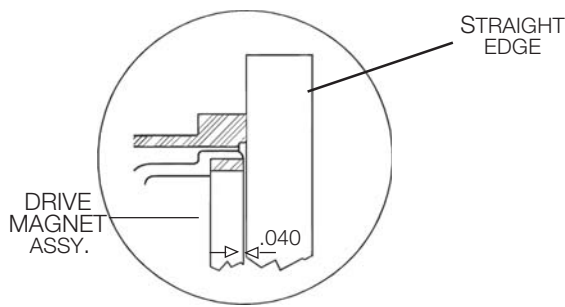
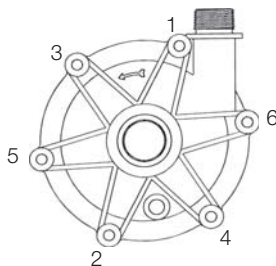

Figure 2
Figure 3
2. Remove screws and washers (items 9A, 9B & 9C) from impeller housing (item 1) and remove pump assembly from motor adapter (item 5).
4. Install the motor adapter (item 5) onto the motor with the access holes top and bottom. Secure with supplied hardware (items 10A, 10B, and 10C). On 63 frame pumps, from the motor side, insert the supplied gray spacer into the base of the motor adapter and secure both to the motor.
5. **For 63 frame pumps** - Screw the cone point drive magnet assembly setscrew (item 6B) in so that it protrudes slightly into the drive bore. Align the protruding setscrew point with the key slot on the shaft adapter and slide the drive magnet assembly (item 6) on. Adjust the drive magnet assembly (item 6) so that it is 1.016 mm (.040 +/- .005) below the face of the motor adapter (see figure 2) and tighten both setscrews with a 5/32" Allen wrench to 7.9 N.m (70 in. lbs.).
For 71 and 80 frame - Align the cone point set screw (item 6B) on the motor shaft and slide the drive magnet assembly (item 6) onto the motor shaft. Adjust the drive so that it is 1.016 mm (.040 + or -.005) below the face of the motor adapter (see figure 2). Tighten both setscrews with a 5/32" Allen wrench to 7.9 N-m (70 in-lbs.).
6. Place the impeller assembly (comprised of items 2 and 3) in barrier (item 4). Grasping the barrier at opposite bolt tabs, carefully lower the barrier assembly into the motor adapter/drive assembly. Line up the tabs of the barrier between the tabs on the motor adapter to avoid pinching fingers. Once seated, rotate the barrier until bolt holes line up.
7. Install the o-ring (item 7) on the barrier. Lubricate the o-ring with a compatible lubricant to facilitate installation.
8. Place the impeller housing (item 1) on the barrier being careful not to dislodge the o-ring.
9. Align mounting holes and install 6 mounting screws and washers (items 9A, 9B & 9C) from hardware package. Hand tighten screws using pattern shown in Figure 3.
- 56C pumps** - Insert the barrier (item 4) into the motor adapter (item 5). Align the barrier tabs with the motor adapter bolt holes and press/pop into place. Install the impeller assembly (items 2 and 3) into the barrier. Lubricate the housing o-ring (item 7) with a chemically compatible lubricant and install. Carefully place the impeller housing (item 1) onto the barrier, lining up the discharge with a set screw access hole (top) in the motor adapter. Be careful not to dislodge the o-ring. Install the six bolts and washers (items 9A, 9B, and 9C) and hand tighten the screws following the pattern shown in figure 3.